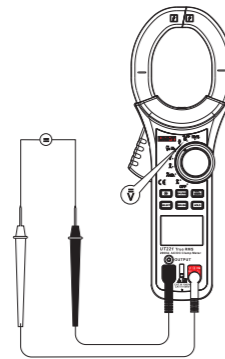

Figure 3
1. DC voltage measurement (\bar{V}) (See Figure 3)